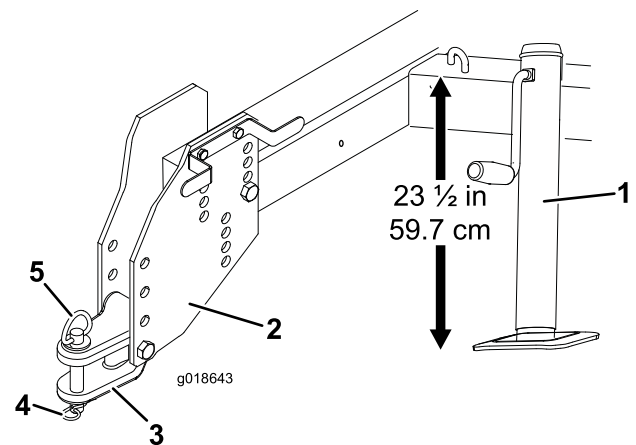

Figure 3
- Adjust the jack so that the distance from the top of the frame to the ground is 59.7 cm (23-1/2 inches) (Figure 3).
- Remove the bolts and locknuts securing the hitch tongue to the hitch plates (Figure 3).
6. Secure the hitch tongue to the traction unit hitch with the hitch pin and lynch pin (Figure 3).